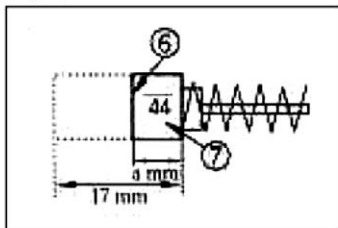

Fig 7
The motor employs carbon brushes that are consumable parts; since an excessively worn carbon brush could result in motor trouble, replace the carbon brush. Wear limiter (6) (See Fig 7)